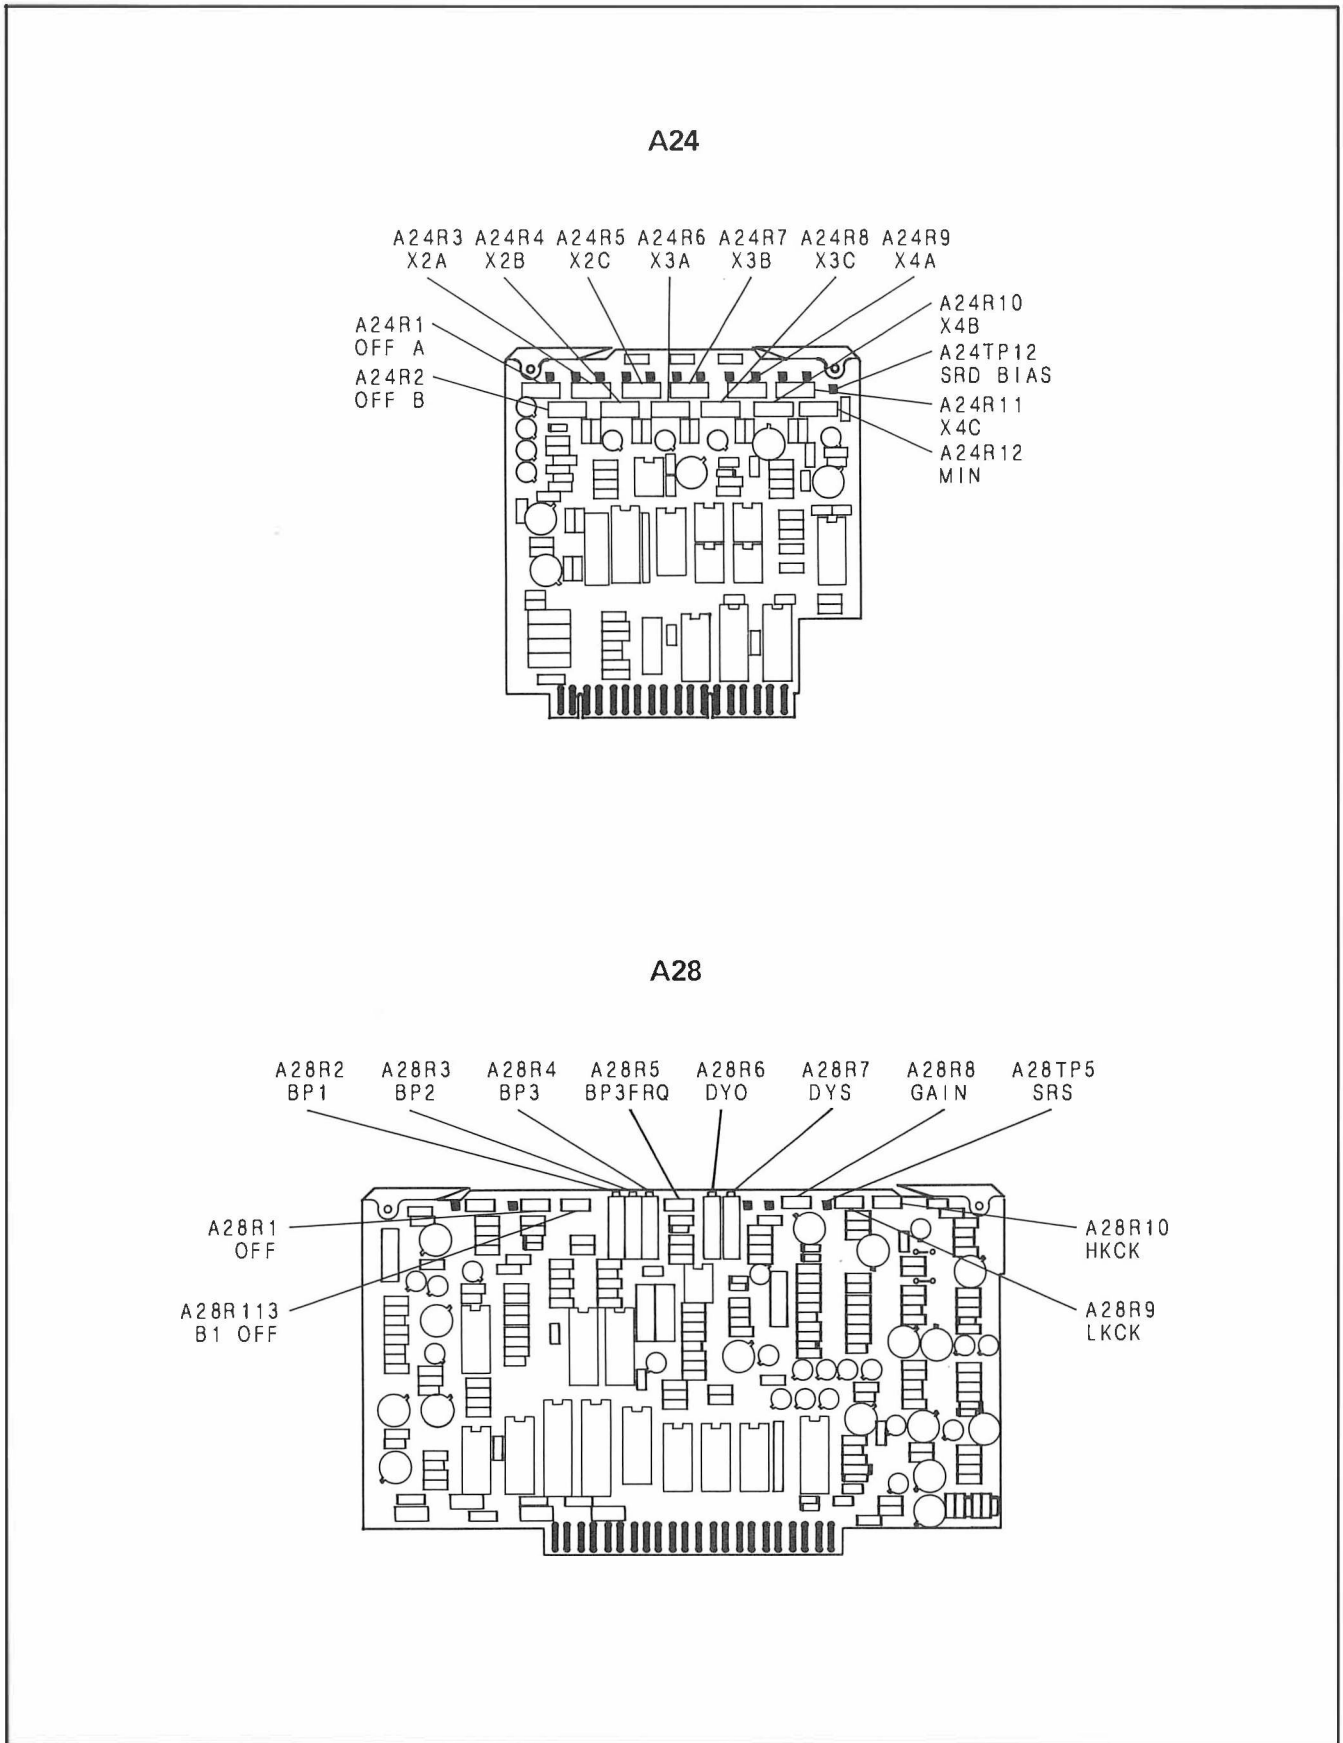

Figure 5-39. Bias, A24, and Tracking and Delay Compensation, A28 Adjustments Location
9. For Band 2 (6.9 to 13.5 GHz), adjust A28R1 (OFF) (Figure 5-39) and A24R3 (X2A) for maximum power at the low frequency end. Adjust A28R8 (GAIN) and A24R4 (X2B) for maximum power at the high frequency end. These adjustments will interact so iterate for optimum settings. Observe the oscilloscope SRD Bias display for a slightly upward slope. Re-adjust X2A and/or X2B slightly if necessary to obtain the correct slope. Once the tracking has been optimized, store the trace in the 8750A Storage Normalizer by setting both 8755C inputs to R, setting the dB/DIV and offset of both 8755C channels the same. Press 8750A CH 1 INPUT, STORE INPUT, and RECALL. Activate the Auto Track function by pressing [SHIFT] [PEAK]. Iterate using A28R1 (OFF) and [SHIFT] [PEAK] to get the best overall results. When adjusting A28R1 (OFF), be sure to try both directions from the original optimized setting.